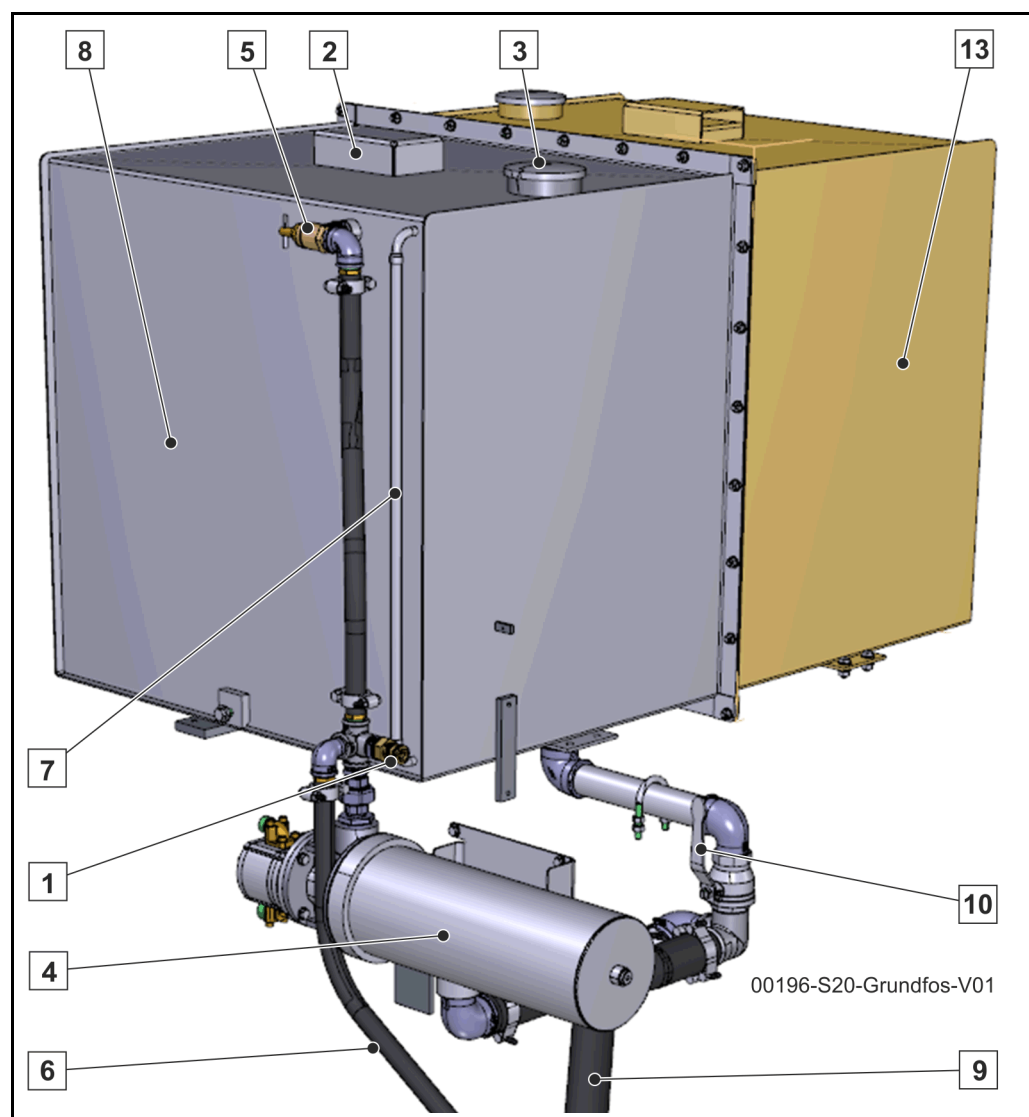
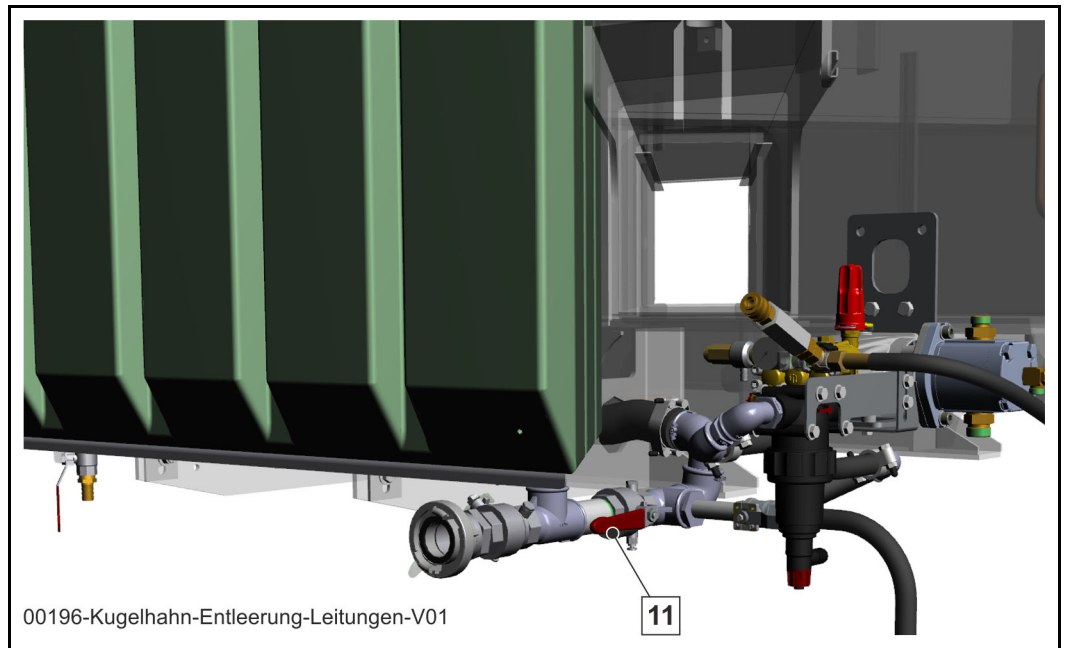
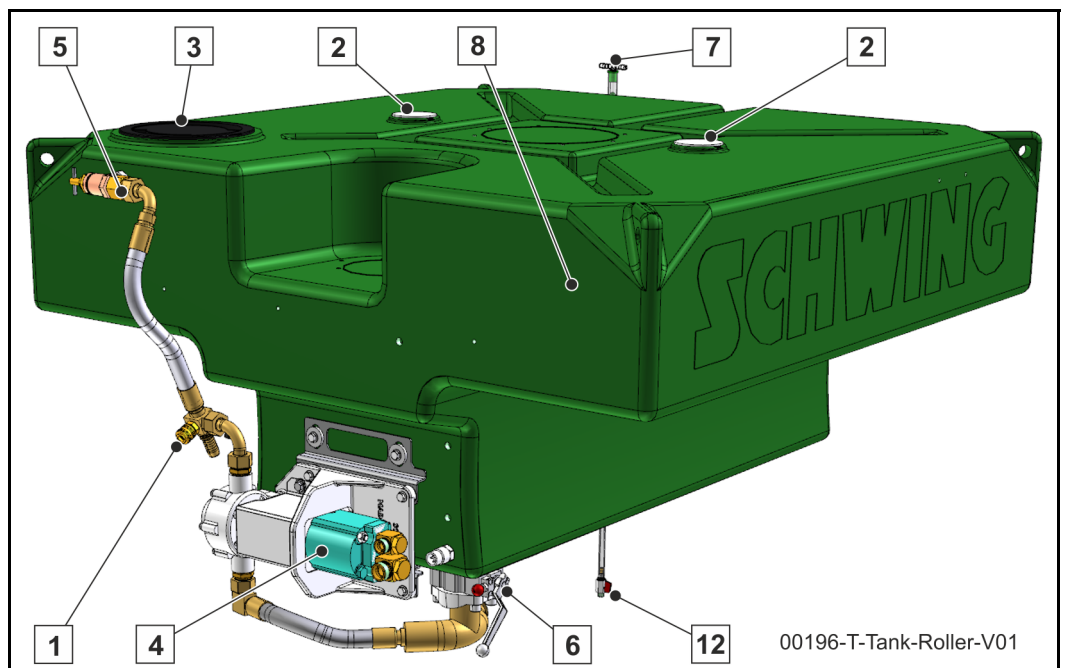

Fig. 199 Water system with auxiliary reservoir (13) with “Grundfos” water pump
Fig. 202 Ball valve: Emptying of lines - enlarged view
Fig. 203 T-container with the "Roller" water pump
The hydraulically driven water pump (4) (**Fig. 199**)/(**Fig. 200**)/(**Fig. 201**)/(**Fig. 203**) supplies the water required for machine cleaning, filling the water box and preparing a lubrication mixture and can be taken or diverted from the supply control (**Fig. 205**).
Illustration legend (Fig. 199)/(Fig. 200)/(Fig. 201)/(Fig. 202)/(Fig. 203)
1. Remove the appropriate filling cap (3) (**Fig. 199**)/(**Fig. 200**)/(**Fig. 201**)/(**Fig. 203**) on the top of the water case.
2. Connect a pressure hose to the water connection (9) (**Fig. 199**)/(**Fig. 200**)/(**Fig. 201**), or in the case of the T-container variant, to the water connection (12) (**Fig. 205**).
3. Open the ball valve (10) (**Fig. 199**)/(**Fig. 200**)/(**Fig. 201**) or (13) (**Fig. 205**), so that fresh water can flow into the water case.
6. Close the ball valve (10) (**Fig. 199**)/(**Fig. 200**)/(**Fig. 201**) or (13) (**Fig. 205**).
Check the water level of the water case on the corresponding level indicator (7) **(Fig. 199)/(Fig. 200)/(Fig. 201)/(Fig. 203)**.
1. Check whether the ball valve (11) **(Fig. 202)** or with the T-container (6) **(Fig. 203)** is open and open it if necessary. With the T-container, observe the loosening of the safety device.
3. Open the ball valve (10) **(Fig. 199)/(Fig. 200)/(Fig. 201)** or with the T-container (13) **(Fig. 205)** in order to empty the **water case** via the water connection.
4. Open the ball valve (6) **(Fig. 199)/(Fig. 200)/(Fig. 201)** and (10) **(Fig. 205)** to
5. Connect the compressed air hose with a quick coupling (1) (**Fig. 199**)/(**Fig. 200**)/(**Fig. 201**)/(**Fig. 203**) and blow out the lines.
1. Close the ball valve (11) (**Fig. 202**) or with the T-container ball valve (6) (**Fig. 203**) so that the water case is not emptied.
2. Then open the ball valve (6) (**Fig. 199**)/(**Fig. 200**)/(**Fig. 201**) or with the T-container (10, 13) (**Fig. 205**) in order to only drain the water from the lines. The water case remains full.
1. First close the valve at position (6) (**Fig. 203**).
2. Open the ball valve (12) (**Fig. 203**) at the lower end of the level indicator.